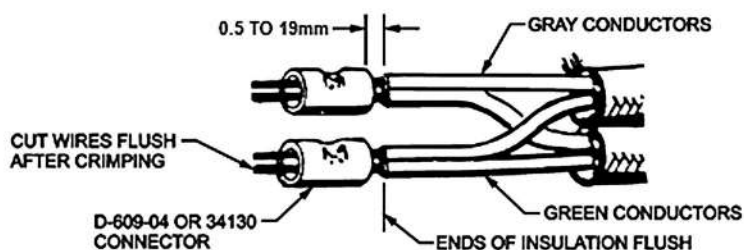

Figure 16-16 Butt Splicing Procedure
29. Install thermocouple splices as detailed in Figure 16-16.
- c. Do not splice thermocouple leads except where specifically indicated, and then only with approved splices such as shown in Figure 16-16.